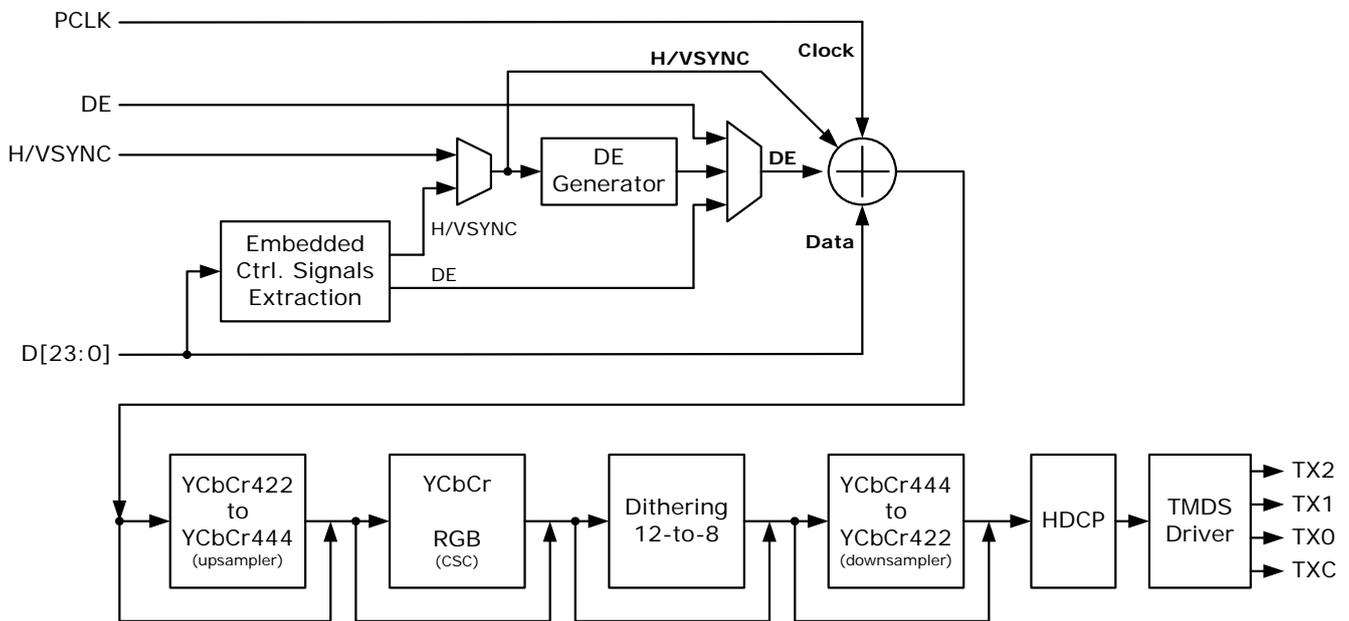

Figure 3. Video data processing flow of CAT6612
Figure 3 depicts the video data processing flow. For the purpose of retaining maximum flexibility, most of the block enablings and path bypassings are controlled through register programming. Please refer to CAT6612 Programming Guide for detailed and precise descriptions.
As can be seen from Figure 3, the first step of video data processing is to prepare the video data (Data), data enable signal (DE), video clock (Clock), horizontal sync and vertical sync signals (H/VSYNC). While the video data and video clock are always readily available from input pins, the preparation of the data enable and sync signals require special extraction process (Embedded Ctrl. Signals Extraction & DE Generator) depending on the format of input video data.
Although not explicitly depicted in Figure 3, input video clock (PCLK) can be configured to be multiplied by 0.5, 2 or 4, so as to support special formats such as CCIR-656 and pixel-repeating. This is also enabled by software programming.